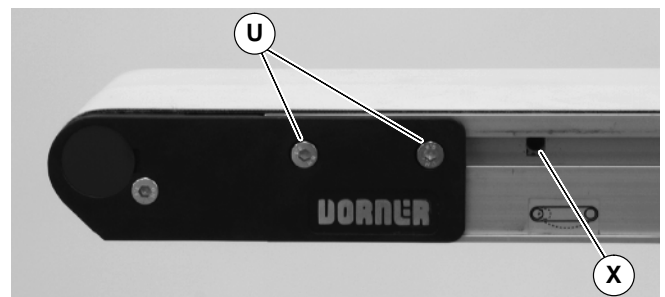

Figure 8
5. With a 5 mm hex-key wrench, rotate pinion gear (X of Figure 8) to tension the conveyor belt. Tighten fastening screws (U) on both sides of conveyor to 60 in-lb (7 Nm). For proper tensioning, refer to “Conveyor Tension End Adjustment”, page 14.